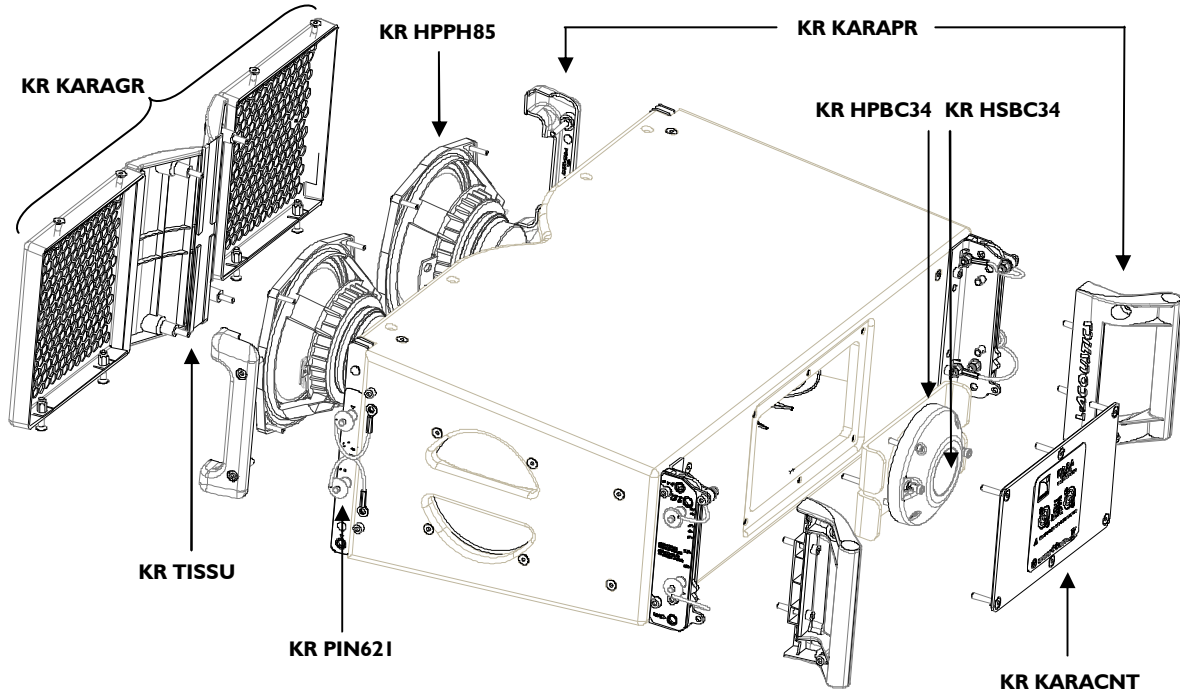

Figure 15: KARA exploded view
The replacement kits (KR) available for the customer are shown in Figure 15 and listed in Table 6 with reference to the corresponding service procedures. Table 7 is a list of all tools and material needed for KARA service (not included).
1. Insert two hex screws into a front protective element and then insert both BLP sling ends into them (arrange both slings as shown in Figure 15).